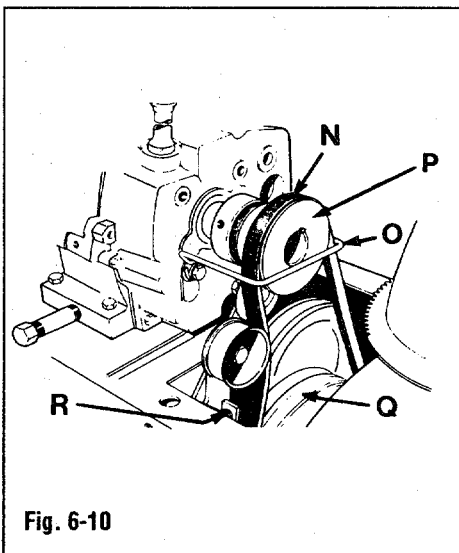

Fig. 6-10
2. Remove two bolts securing belt guide (O, Fig. 6-10) to back of engine. Remove belt guide.
3. Move auger drive belt (N) out of groove in auger drive pulley (P).
4. Move lower part of auger drive belt off lower drive pulley (Q). To allow more room for belt removal, pull brake arm (R) outward.